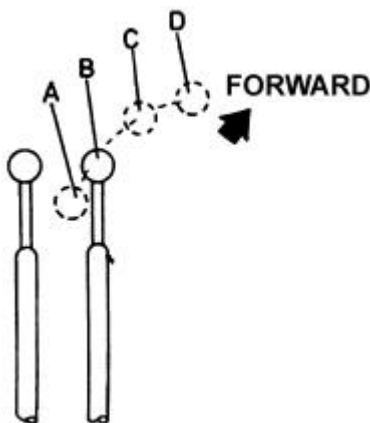

Fig. 4.25. Boom Control Lever Positions
4.18.1. BOOM CONTROL LEVER POSITIONS (FIGURE 4.25.)